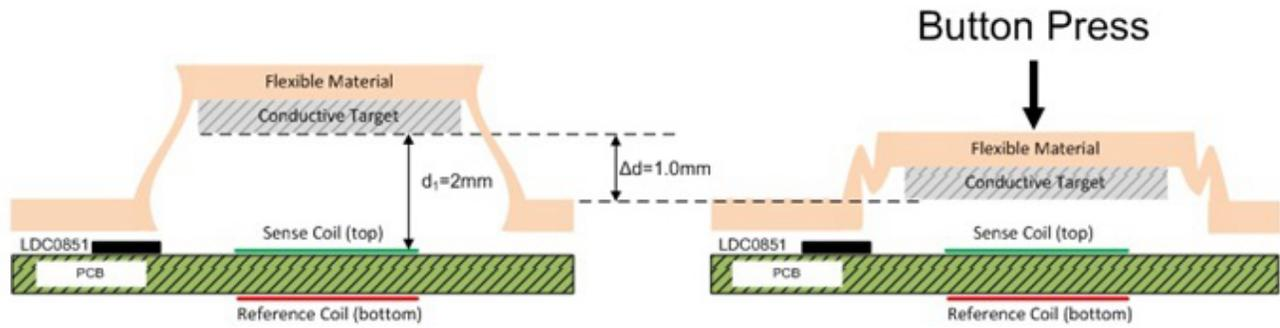
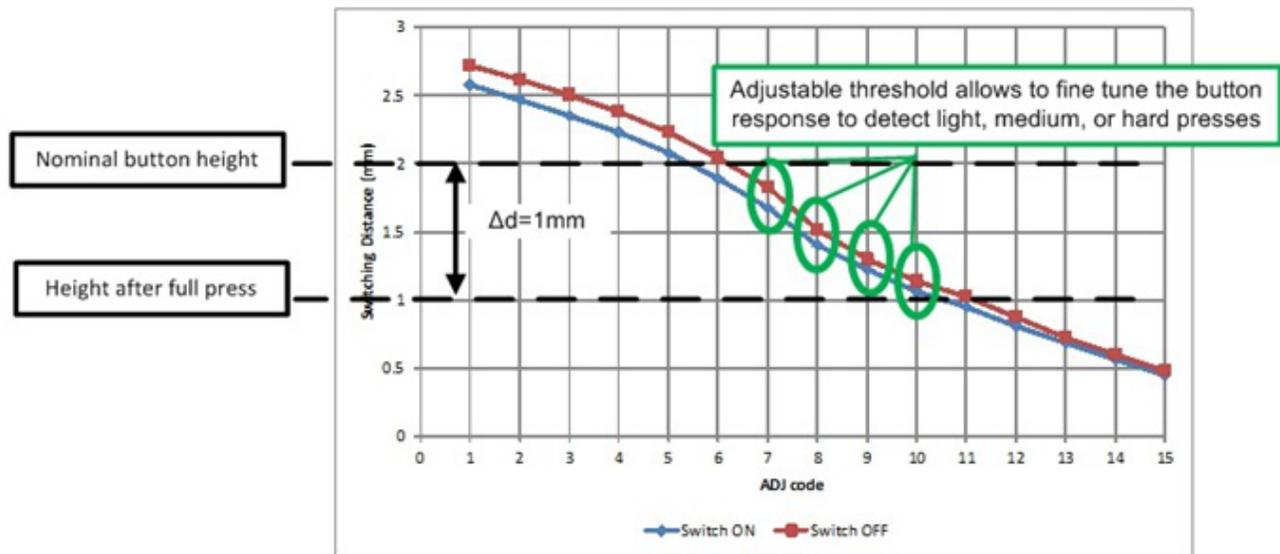

Figure 2. Proximity Detection for an Example Button Application
Figure 3. Adjustable Threshold to Fine Tune Button Response
- Proximity-detection applications that need a contactless and repeatable switching threshold, such as simple buttons, door open/close detection mechanisms and industrial proximity switches. Figure 2 shows a proximity-detection application in which an LDC0851 senses the position of a snap-dome button without electrical contact. Figure 3 shows that the adjustable threshold allows for easy prototyping and fine-tuning the response to detect the button response.